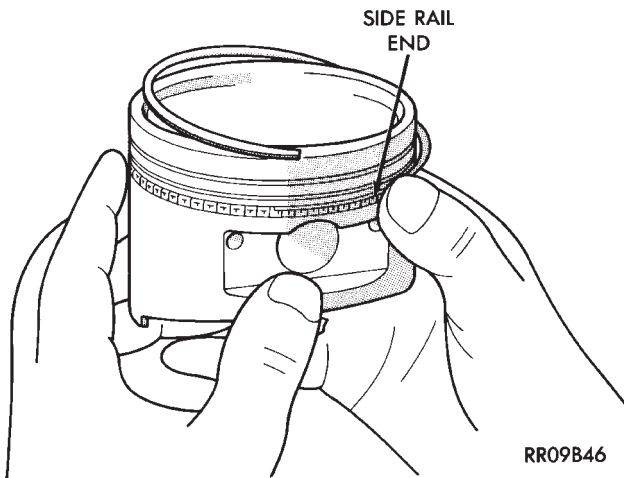
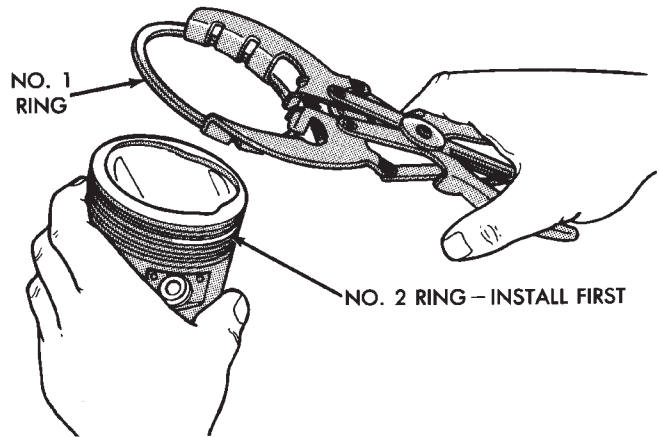

Fig. 82 Side Rail—Installation
Fig. 83 Upper and Intermediate Ring—Installation
- (2) Oil ring expander.
- (3) Upper oil ring side rail.
- (4) Lower oil ring side rail.
- (5) No. 2 Intermediate piston ring.
- (6) No. 1 Upper piston ring.
- (7) Install the side rail by placing one end between the piston ring groove and the expander. Hold end firmly and press down the portion to be installed until side rail is in position. **Do Not use a piston ring expander** (Fig. 82).
- (8) Install upper side rail first and then the lower side rail.
- (9) Install No. 2 piston ring and then No. 1 piston ring (Fig. 83).